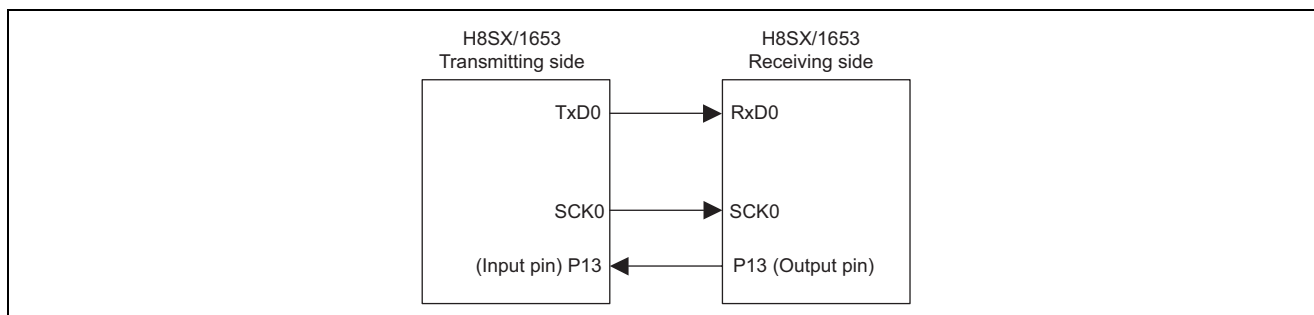

Figure 1 Clock Synchronous Serial Reception
- An example of connection for this sample task is shown in figure 1.